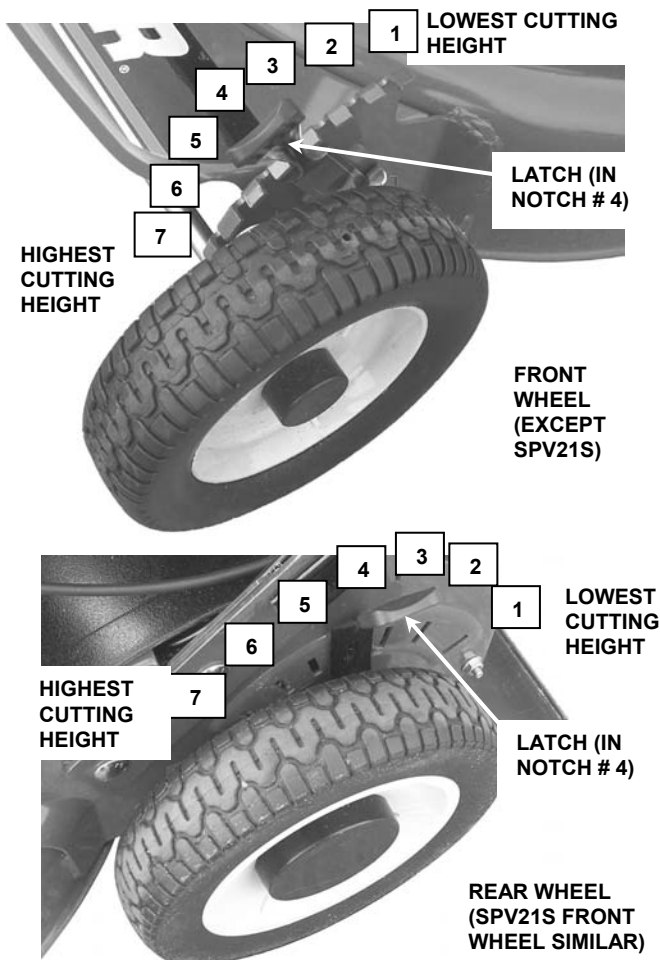

FIGURE 2.10
1. Pull the height adjusting latch outward and move to desired cutting height. See Figure 2.10.